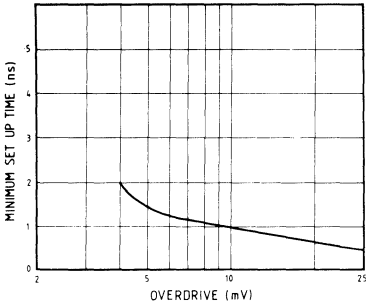

Fig. 7c Ts v. overdrive set-up time
2. This parameter is defined with  $+100$  mV input and  $-10$  mV overdrive, corrected to take account of the comparator offset, i.e. the switching threshold effectively is at  $OV$  on the input waveform. The relationship between setup time and overdrive is shown in Fig. 7c. The test circuit diagram, Fig. 4 indicates a method of performing this test.